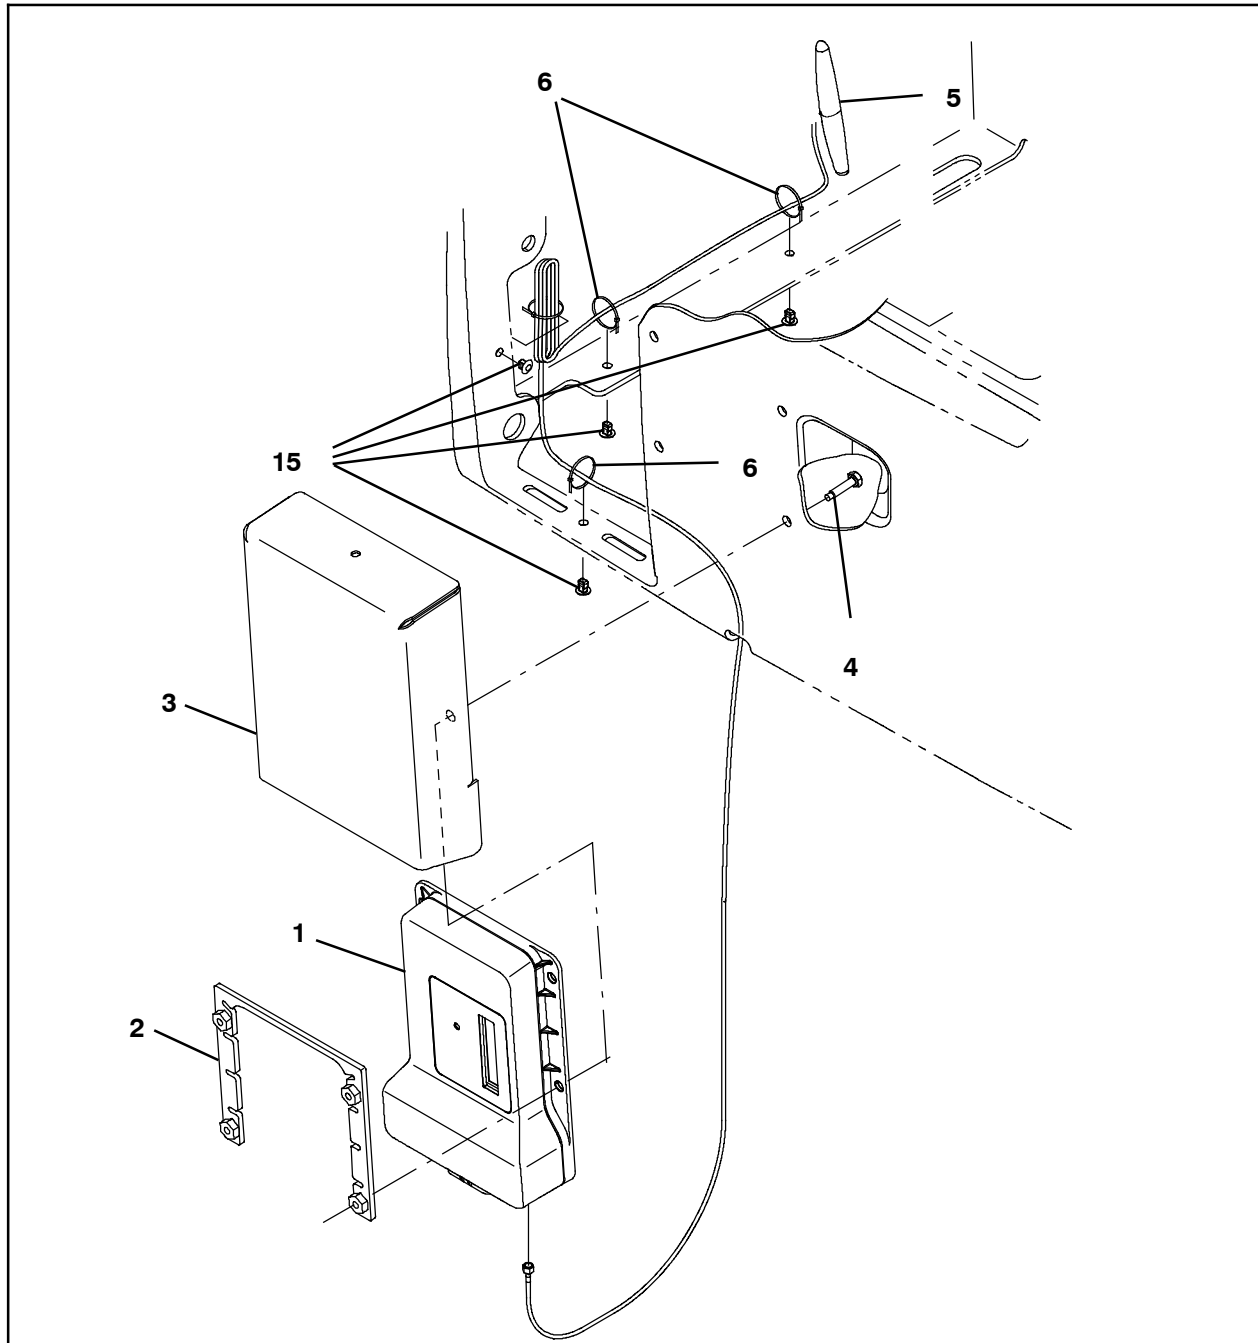

Fig. 6
3. Use four M6 Sems hex screws (4) and the control box guard (2) to install the telemetry control box (1) and guard cover (3) onto the battery box cover. (Fig. 6)
4. Connect the antenna (5) cable to the telemetry control box (1). (Fig. 6)
5. Install the antenna (5) to the inside of the battery box cove as shown (Fig. 6).
6. Use four tie clips (15) and four cable ties to secure the antenna (5) cable to the battery box cover. Neatly bundle any excess antenna cable and use tie clips and cable ties to secure the cable to the battery box cover. (Fig. 6)